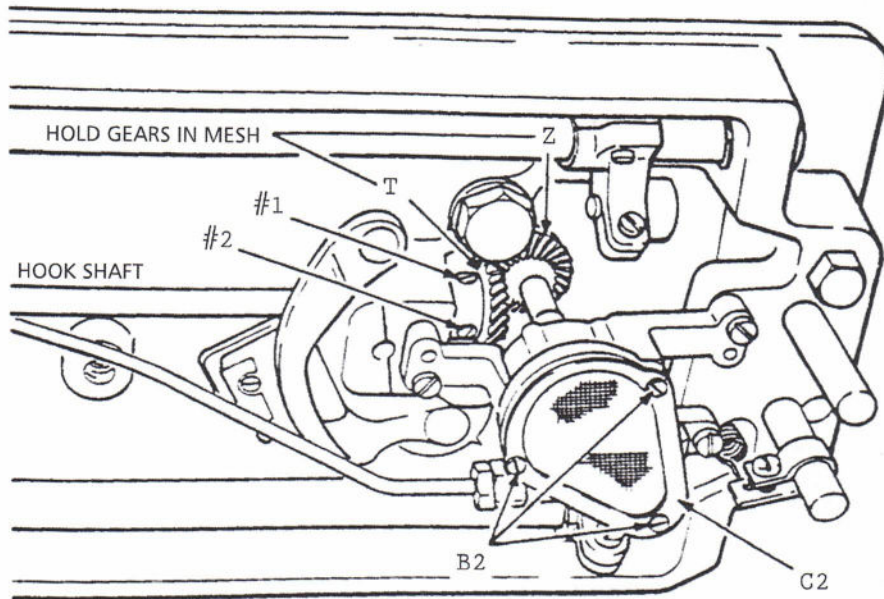

Fig. 17
2. Mark the two lower bevel gears Z and T, Fig. 17, with chalk or crayon, on one tooth of one gear and the corresponding space for that tooth in the other gear. This is important, as these gears may become separated during removal of shaft. These marks will then make it possible to obtain the original mating position of the gears.
3. Loosen the two set screws #1 and #2 in hook shaft bevel gear. While holding the two gears Z and T in mesh, as instructed in Fig. 17, withdraw the old hook shaft and INSERT THE NEW SHAFT.
5. Make certain that set screw #1 seats over flat on the hook shaft. Remove all end shake from hook shaft, pushing gear T, Fig. 17 toward the hook on the shaft. Securely tighten first set screw #1, then securely tighten the second screw #2.
2. Remove the three screws B2, Fig. 17.
3. Remove the screen frame, screen and oil pump cover C2, Fig. 17.
5. Replace pump cover, screen and frame C2 and three screws B2, Fig. 17. Securely tighten screws B2.
2. Follow the instructions in Steps 2 and 3 for removal of hook shaft on page 10 except that, instead of removing hook shaft, merely remove hook shaft bevel gear T, Fig. 17.
1. Before installing upright arm shaft, make certain it has the bevel gear Z, Fig. 17 correctly fastened at the lower end of shaft.